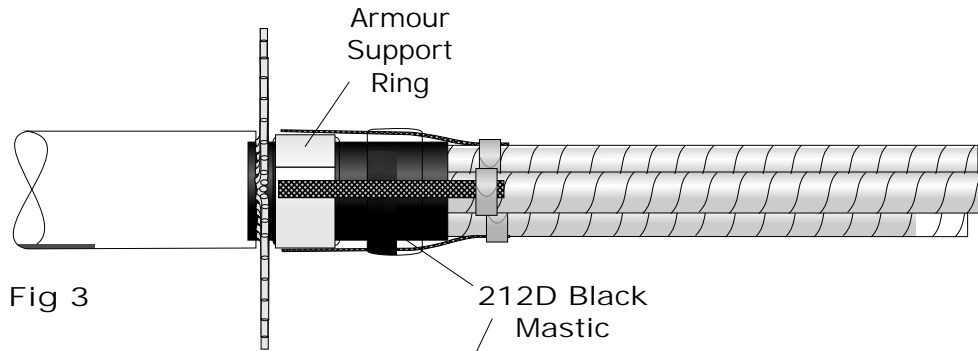

Fig 3
4. Fit the under armour support ring and fold down the armours as shown in Fig 3 + 4.